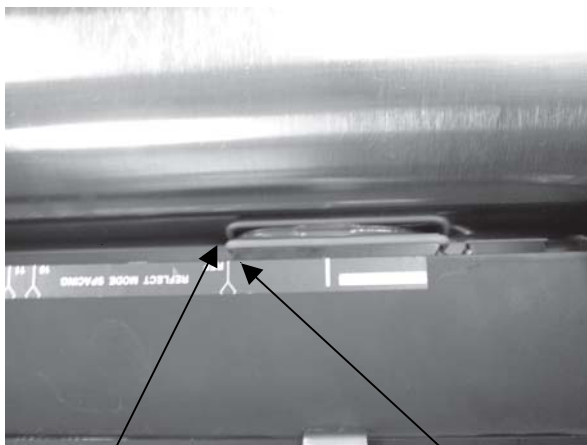
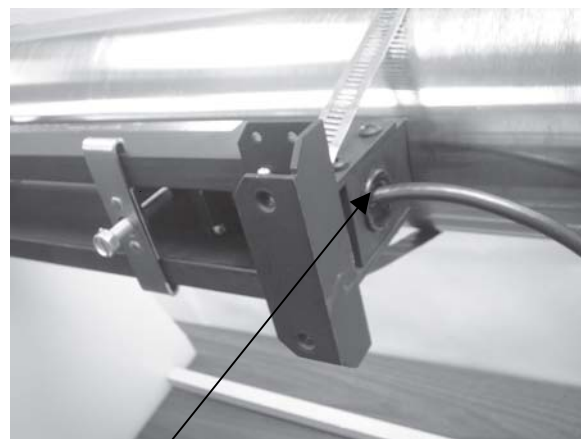

Figure 4
Figure 5
- Locate the Reference Index Marker on the Mounting Track Assembly (Figure 4). Determine the upstream direction and feed the appropriate transducer cable from the flowmeter through the end plate of the Mounting Track Assembly. Press cable bushing into hole (Figure 5).
- Install transducer into Mounting Track Assembly and align its front edge with the Reference Index Marker. Mate to pipe and clamp in place (Figures 4 and 6).